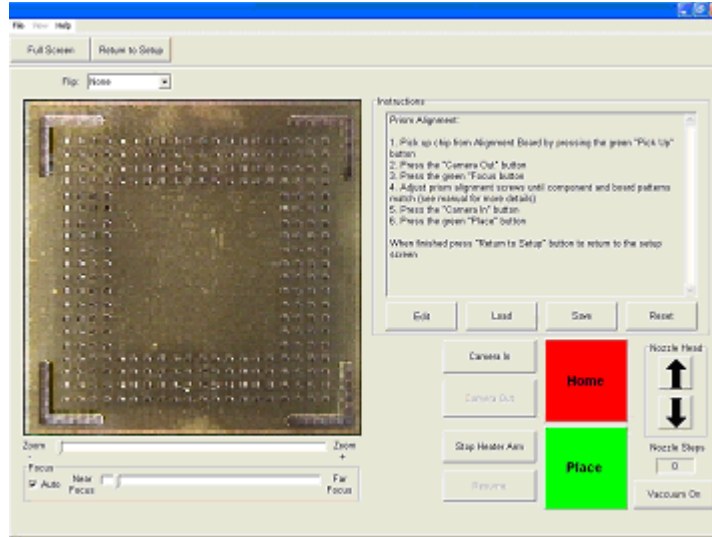

Figure 12
- xi. Image in the window should be aligned like figure 12.